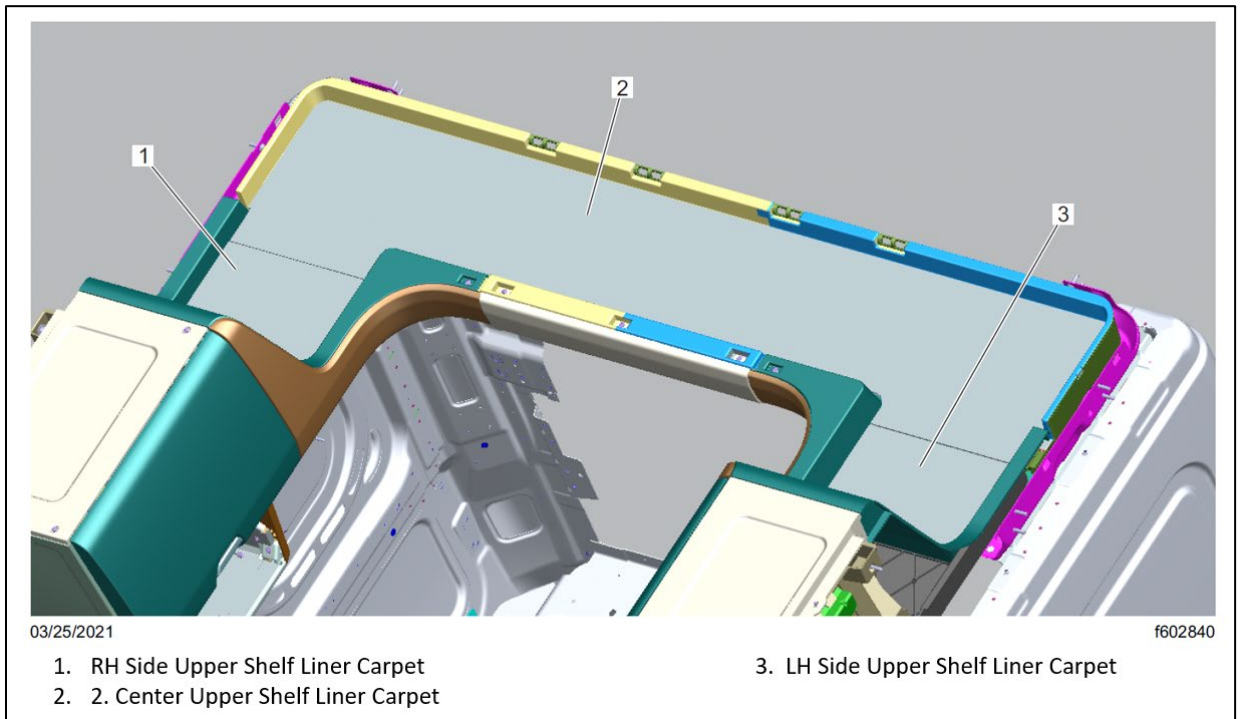

Fig. 37, Rear Upper Shelf Carpet
4. Remove the center and RH side rear upper shelf carpet. See Fig. 37.